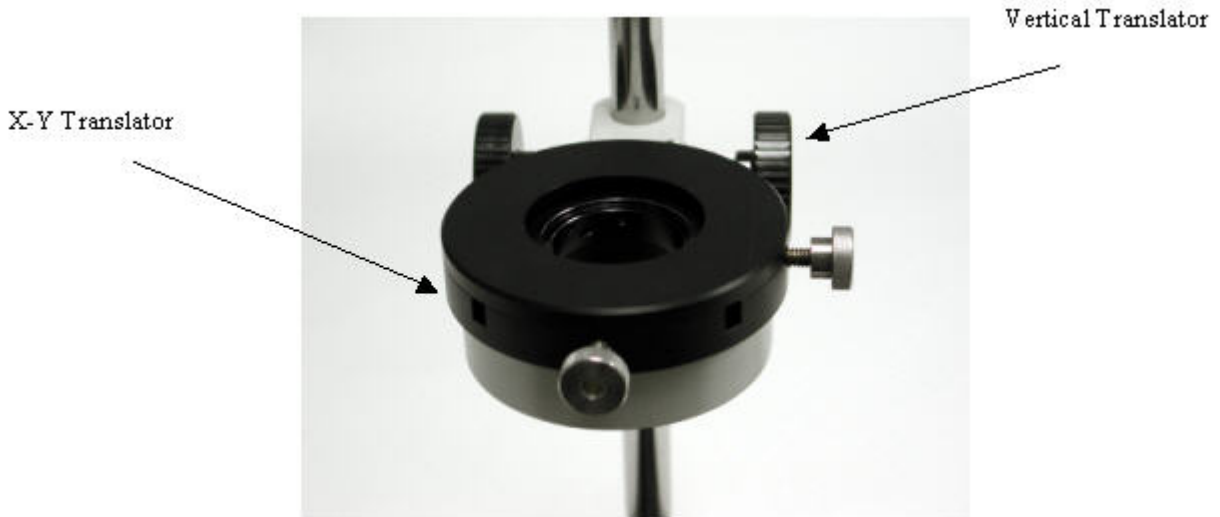

Figure 3 (X-Y translator correctly placed into vertical translator)
- Place the **X-Y Translator** into the **Vertical Translator**, and lock it in with the clamp knob (located at the rear of the Vertical Translator assembly). The knobs of the X-Y assembly should face as shown in **Figure 3** below.
4. Use the **Vertical Translation** knob (see **Figure 3**) to adjust the vertical position of the camera and note the position at which the cantilever is in focus and then, closer to the microscope, the position at which the reflection of the cantilever is in focus. Then adjust the camera height to the midpoint of these two positions.